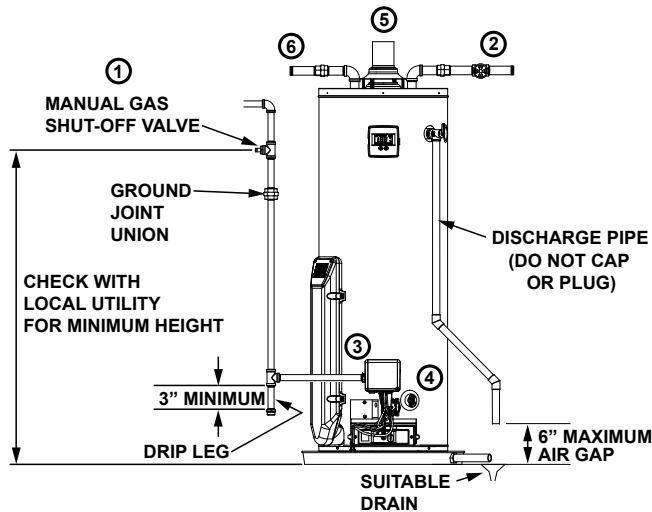

FIGURE 2.
If the main gas line shutoff valve serving all gas appliances is used, also shut "OFF" the gas at each appliance. Leave all gas appliances shut "OFF" until the water heater installation is completed. See Figures 2 and 3.
2. Open a nearby hot water faucet until the water is no longer hot. When the water has cooled, turn "OFF" the water supply to the water heater at the water shut off valve or water meter. Some installations require that the water be turned off to the entire house. See Figures 2 and 4.
4. Attach a hose to the water heater drain valve and put the other end in a floor drain or outdoors. (See Figures 2 and 5.) Open the water heater drain valve.